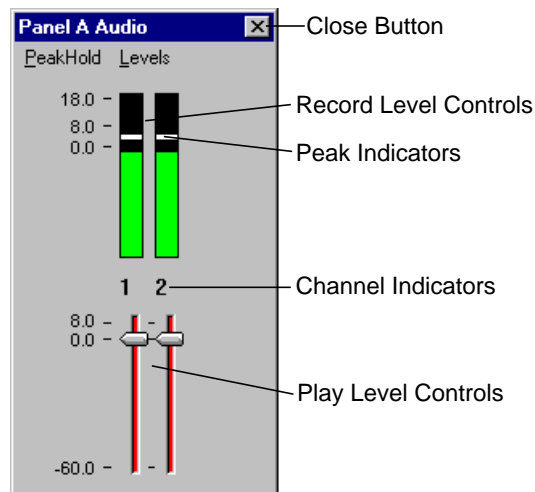

Figure 87. Audio Monitor dialog box
2. Choose **Window | Audio Monitor**. The Audio dialog box appears, as shown in Figure 87. There are only two channels in this example, but up to 32 channels are possible if the necessary boards are installed.